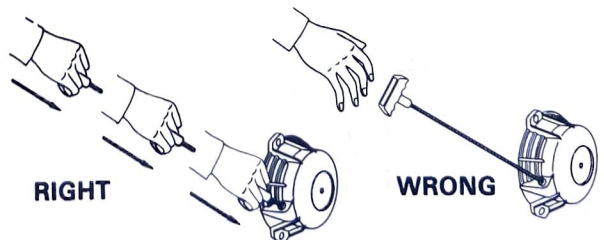

Fig. 3
b) By means of a recoil starter : Pull strongly on the rope. After starting the engine, do not let the handle out of your hand but accompany it back to the starter housing (see Fig. 3).